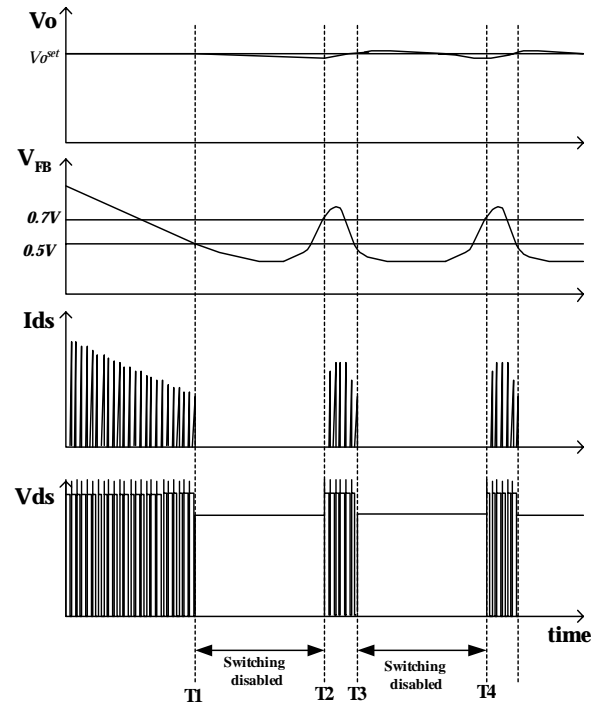

Figure 9. Waveforms of burst operation
5. Burst operation : In order to minimize power dissipation in standby mode, the FPSTM enters burst mode operation. As the load decreases, the feedback voltage decreases. As shown in figure 9, the device automatically enters burst mode when the feedback voltage drops below V_{BURL} (500mV). At this point switching stops and the output voltages start to drop at a rate dependent on standby current load. This causes the feedback voltage to rise. Once it passes V_{BURH} (700mV) switching resumes. The feedback voltage then falls and the process repeats. Burst mode operation alternately enables and disables switching of the power Sense FET thereby reducing switching loss in Standby mode.